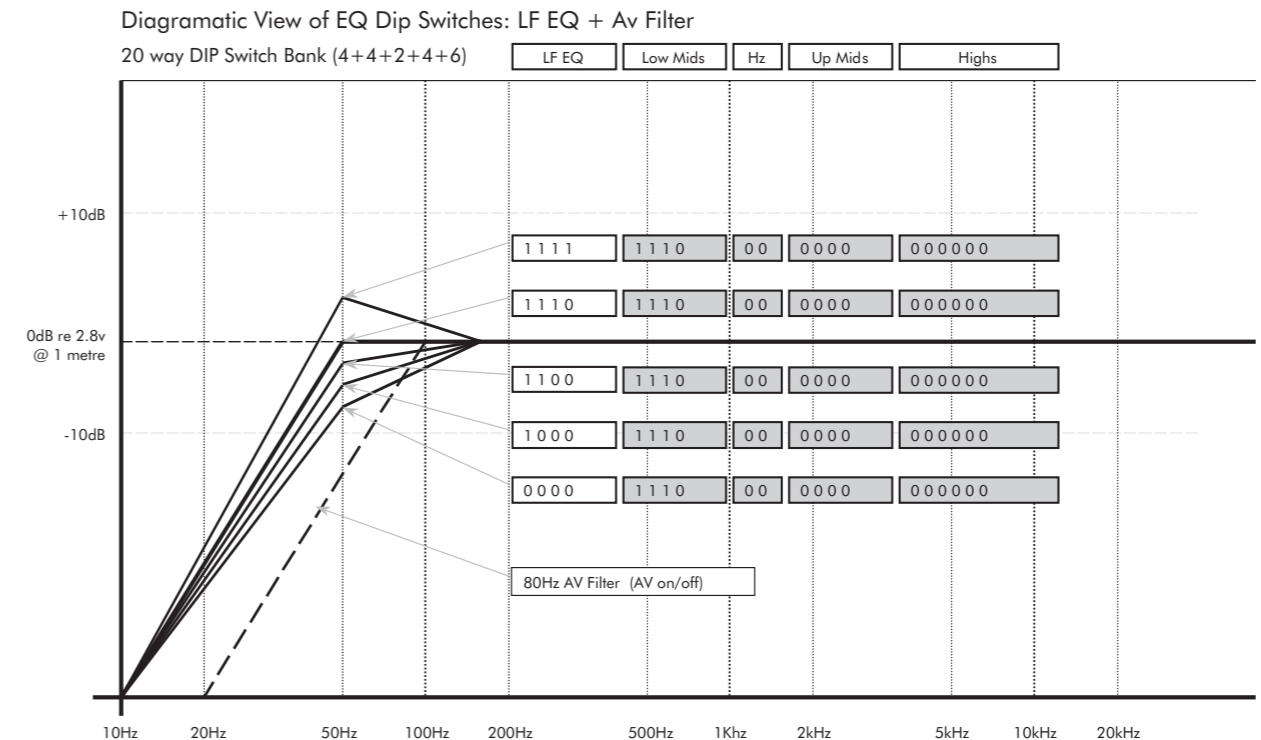

Fig. 2. Range of adjustment available and settings for the first 4 DIP switches. All other DIPs set to 'Flat'
**Bass Corner Frequency:** The 'Q' value of the bass unit and cabinet volume alignment can be altered giving +3dB, flat, -1.5, -3, and -4.5 dB relative to the -3dB point shown in the specification. This provides a degree of boost and cut in the 45Hz to 65Hz area. Figure 2 shows the range of adjustment available together with the DIP switch settings for the first 4 DIP switches. All other DIP switches are shown in the anechoic flat positions.